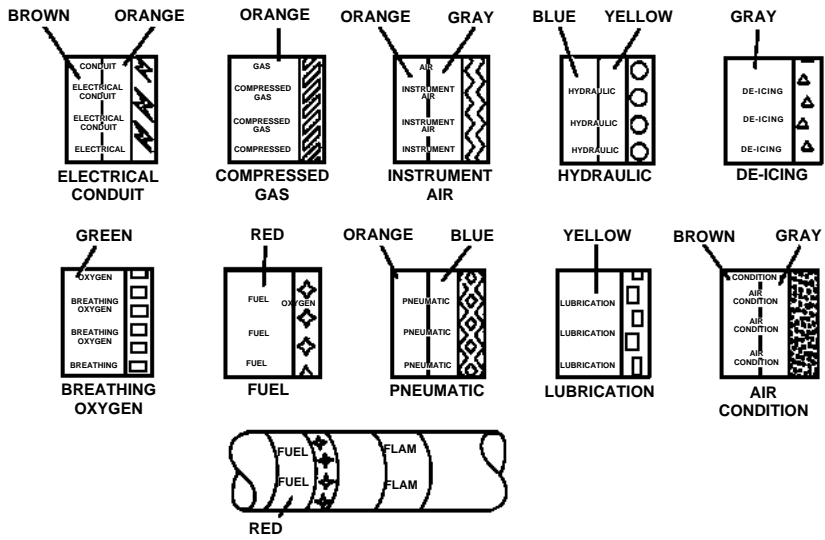

Figure 20-4. Hose and Line Markings
D. IDENTIFICATION OF FLUID LINES (Refer to figure 20-4.)